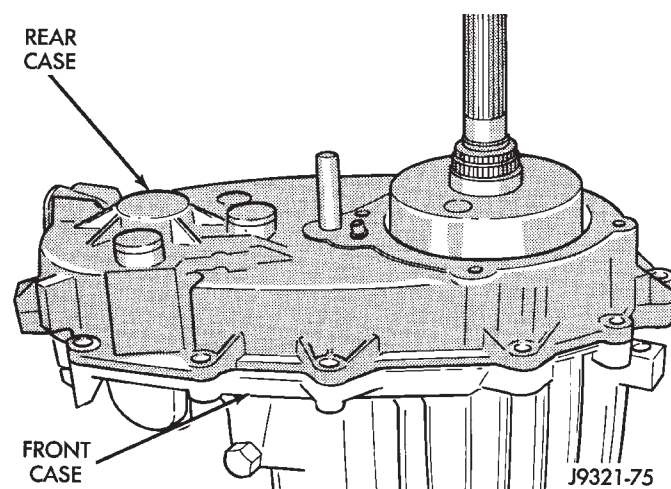

Fig. 86 Rear Case Installation
- (5) Align and install rear case on front case (Fig. 86).